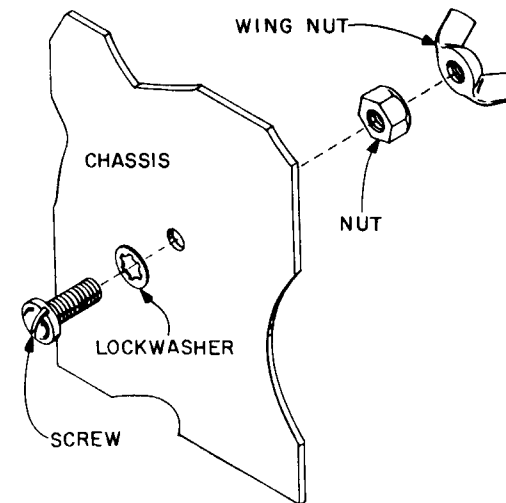

FIGURE 5. GROUND POST ASSEMBLY
- ☒ Ground post, a 10-32 screw, lockwasher, nut and wing nut. Assemble as shown in Figure 5.